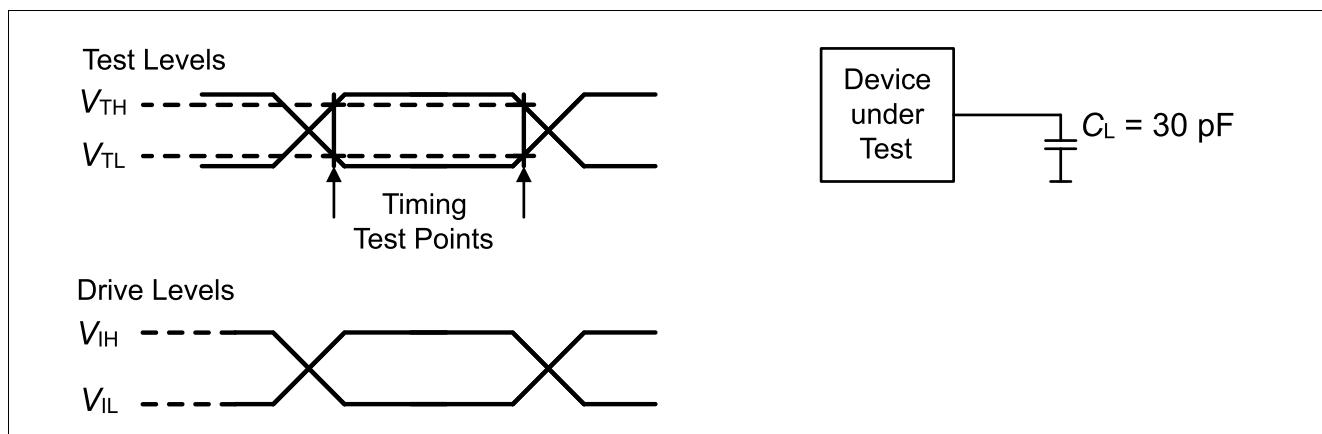

Figure 17 Input/Output Waveform for AC Tests
**Figure 17** shows the AC testing input/output waveforms. The load capacitors are according to the specific interface standard. All non-specified interfaces use 30 pF as assumed loading.